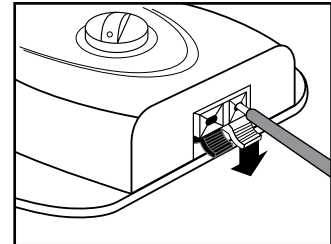

figure 5
- Insert one end of the Boundary Wire into the black tab on the bottom of the Base Transmitter by pulling back the black tab. (fig. 5)